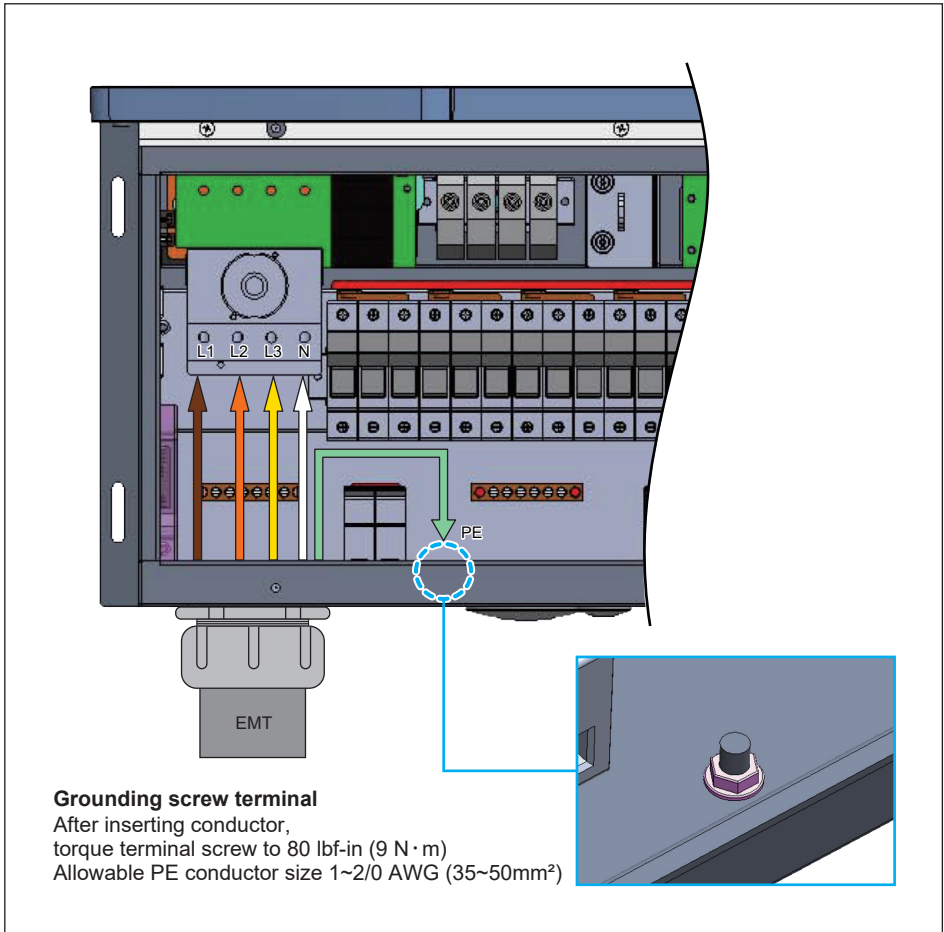

Figure 3-20: Two optional Location of AC terminals and wiring (120 model) (Continued)
- Insert the EGC (1~2/0 AWG) into the grounding screw terminal, torque value of 80 lbf-in (9 N·m). (see **Figure 3-20**)